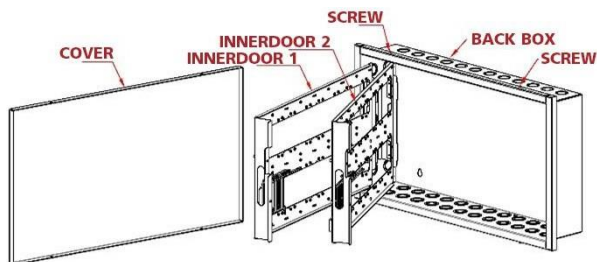

Figure 1 Box Component
1. Mount the standard modules and mini-input modules onto each slot on the backbox using four #6-32 screws provided. See Figure 1.